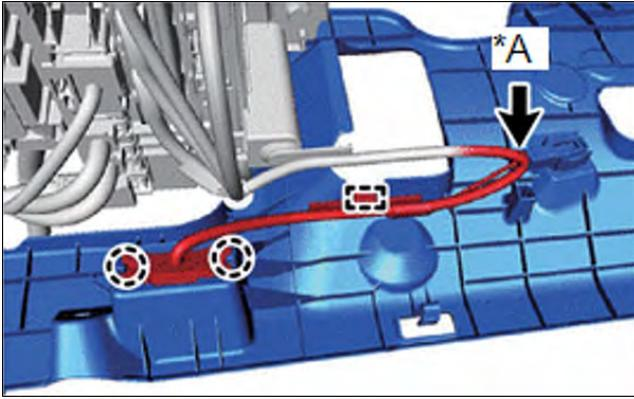

Figure 6
- (c) With illumination, disconnect the guide and 2 claws, and disconnect the connector, as shown in Figure 6.